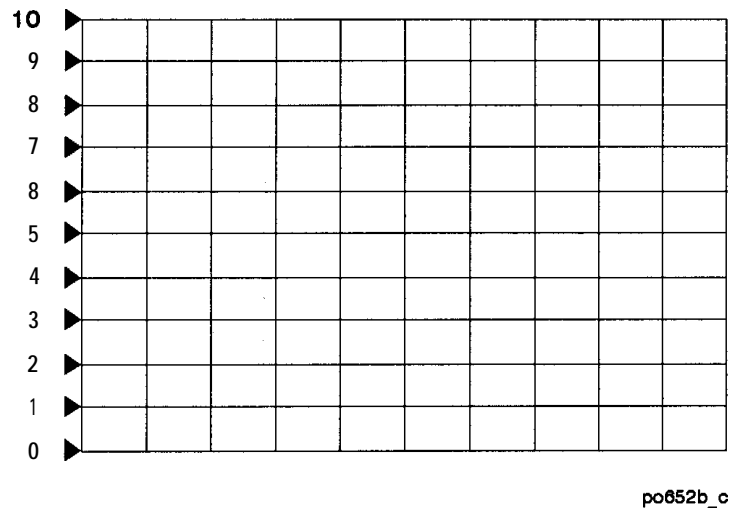

Figure 4-19. Reference Positions
1. If you want to move the reference position (indicated by the ► symbol on the left side of the display), press **(SCALE) Reference Position** and then use the front panel knob, the **(↑) (↓)** keys, or the numeric keypad to enter a new reference position. A number is assigned to each possible reference position. See Figure 4-19.
1. If you want to move the reference position (indicated by the ► symbol on the left side of the display), press **[SCALE] Reference Position** and then use the front panel knob, the **[↑] [↓]** keys, or the numeric keypad to enter a new reference position. A number is assigned to each possible reference position. See Figure 4-19.